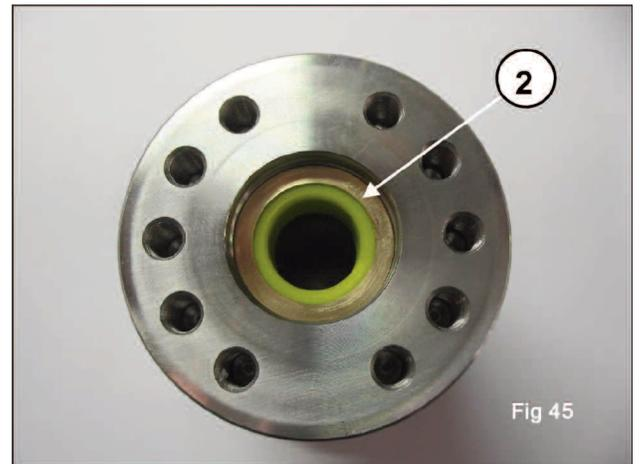

Fig 45
- Insert the anti-extrusion ring (2) and the gasket bushing (3) arranged as shown in fig. 45, 46 and 47.